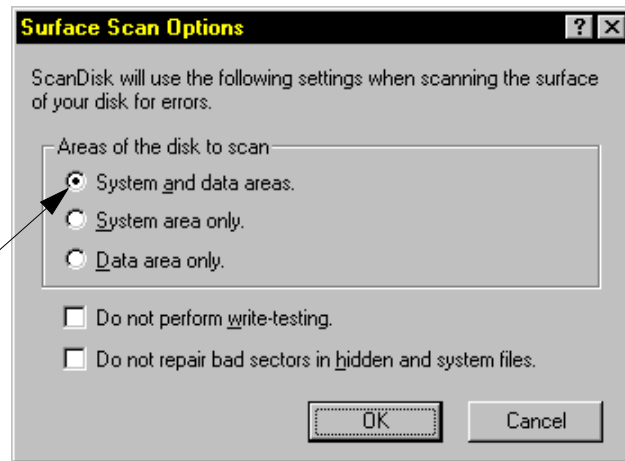

Figure A.25 Surface Scan Options Dialogue Box
3. Click the **Options...** button. This brings up the **Surface Scan Options** dialogue box. Refer to Figure A.25.
4. Select the **System and data areas** item and click the **OK** button. Refer to Figure A.25.